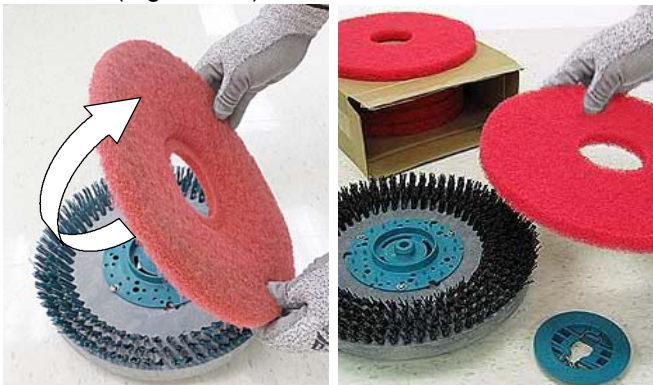

FIG. 107
5. Disk scrub head - Turn pad over or replace when worn (Figure 107).